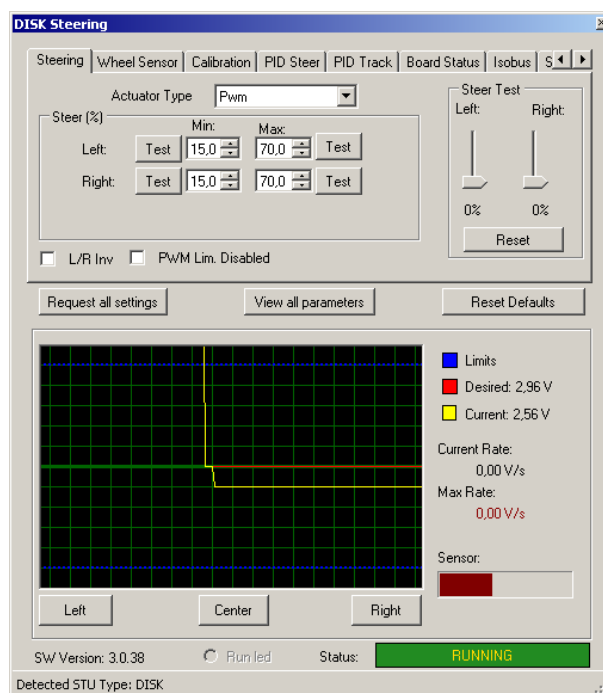

Figure 30 Tab Steering
Go to the tab page *MyPartners* (Figure 29). On *Implement Controller*, select "SBGuidance" and click on "Add". This will open the set-up screen for the CAN disc controller (Figure 30).
1. On the tab page Steering (Figure 30) for proportional steering, select Type *Pwm*.